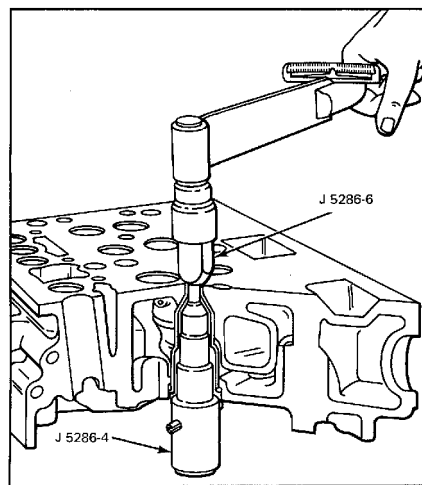

Figure 3. Upsetting Injector Tube.
a. Turn the cylinder head bottom side up, remove pilot J 5286-5 and thread upsetting die J 5286-6 into the tapped end of installer J 5286-4 (Fig. 3).